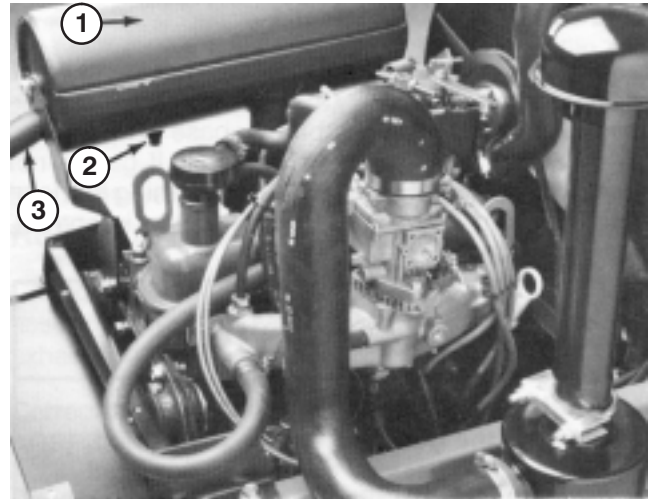

Figure 37
2. Remove pipe plug from clean-out port at lower side of muffler (Fig. 37).